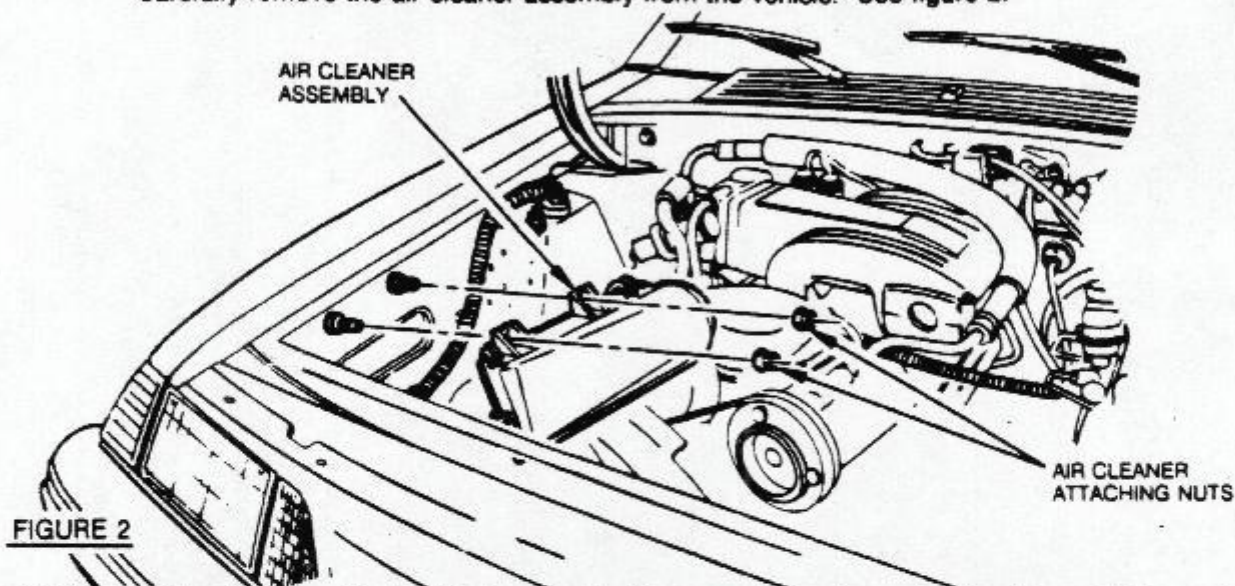

FIGURE 2
STEP 3 Remove the two (2) air cleaner attaching nuts located at the top of the air cleaner assembly. Carefully remove the air cleaner assembly from the vehicle. See figure 2.
STEP 5 Position the air cleaner assembly in its original location and reinstall the two (2) attaching nuts that were removed in step 3. Refer to figure 2.